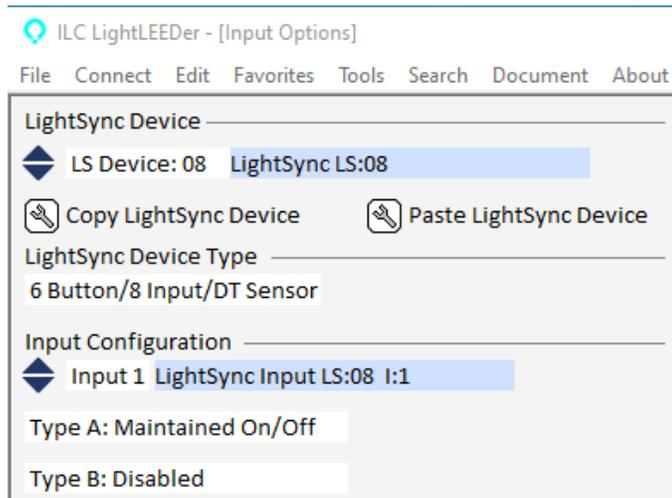

Figure 2
- C. Select the LightSync device address for the sensor, and then select: **6 Button/8 Input/DT Sensor**, then select **Maintained On/Off** for Input 1, Type A: as shown in Figure 2